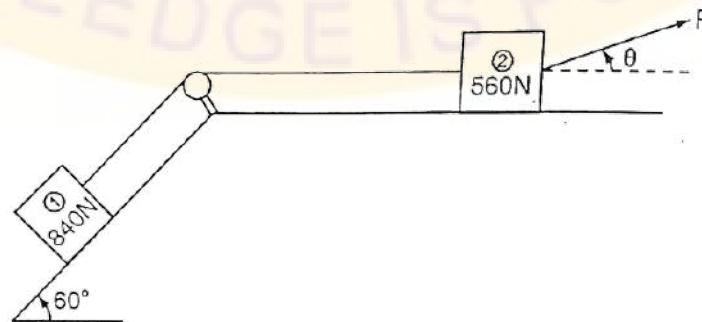

Figure 7
3. What is the value of 'P' required to cause the motion impend, the system shown in Figure 7 below. Assume coefficient of all contact surfaces as 0.2.